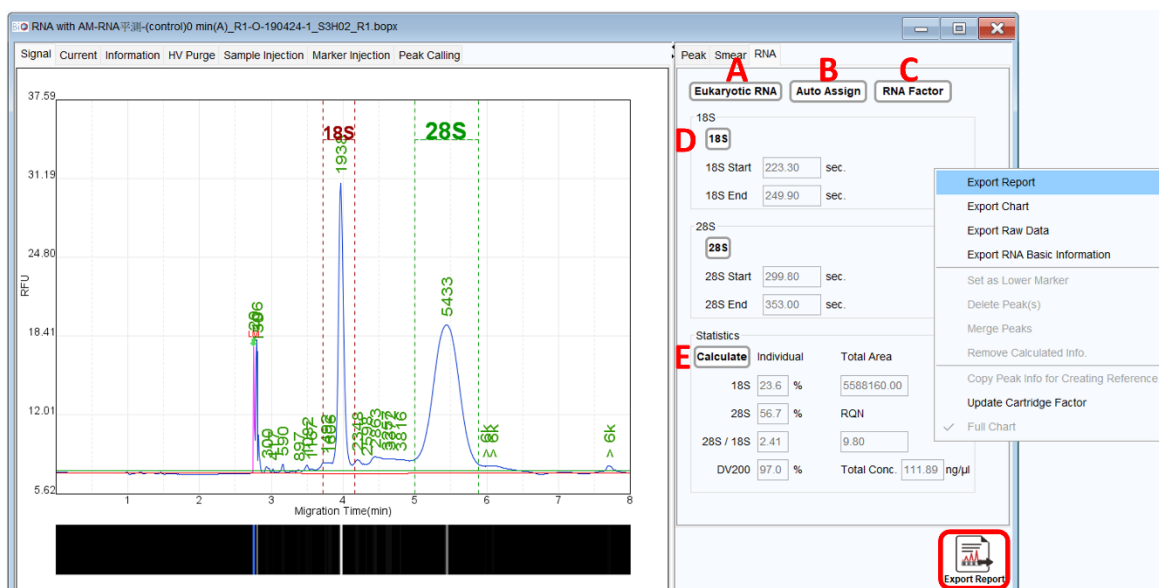

Figure 72 RNA Quality Check Panel
- To choose either Eukaryotic RNA or Prokaryotic RNA, click on the **Eukaryotic RNA** button (Figure 72 A)
- The systems will **Auto Assign** 18S/28S RNA (Eukaryotic) or 16S/23S RNA (Prokaryotic) based on your selection (Figure 72 B). If the margins do not properly cover the RNA area, you can manually drag them to the correct positions.
- To save the settings, click on the **RNA Factor** button to edit and save the RNA factor table (Figure 72 C).
- By clicking the 18S and 28S or 16S and 23S buttons, you can either hide or show (by default) the rRNA assignment on the electropherogram (Figure 72 D).
- Click on the **Calculate** button, and the 28S/18S or 23S/16S ratio, along with the RQN (RNA Quality Number) will be displayed (Figure 72 E).